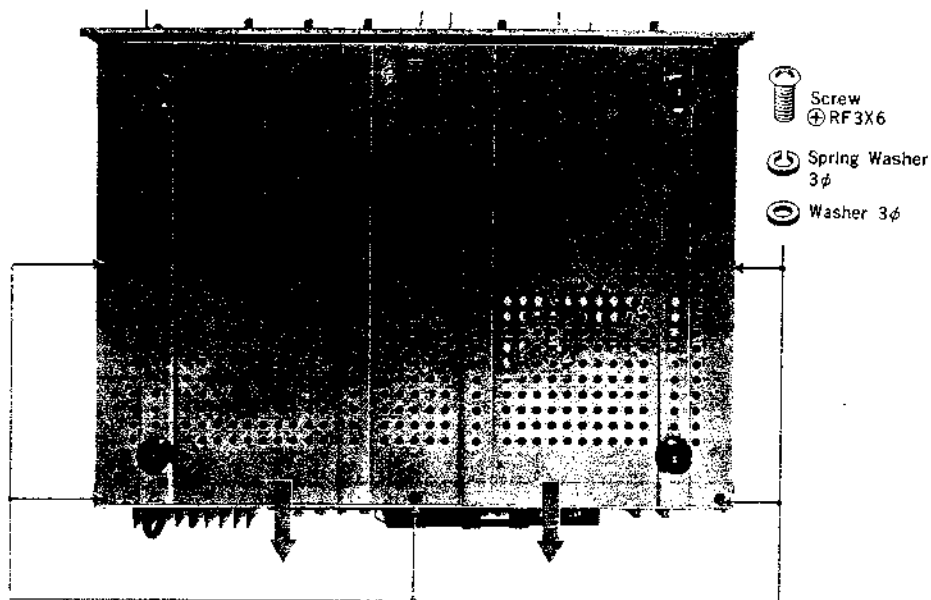

Fig. 2-1 Removal of Bottom Plate
- (b) Loosen off five Phillips-Head screws (+RF 3×6) at the bottom of the receiver and pull the bottom plate toward the rear of the receiver. See Fig. 2-1.